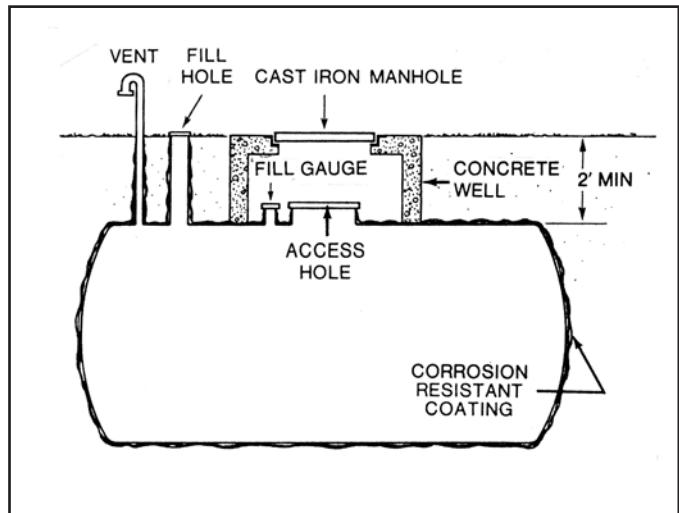

Figure 14. Typical example of properly installed underground fuel tank
- e) Underground tanks (Figure 14) are to be buried at least 2 feet below grade.